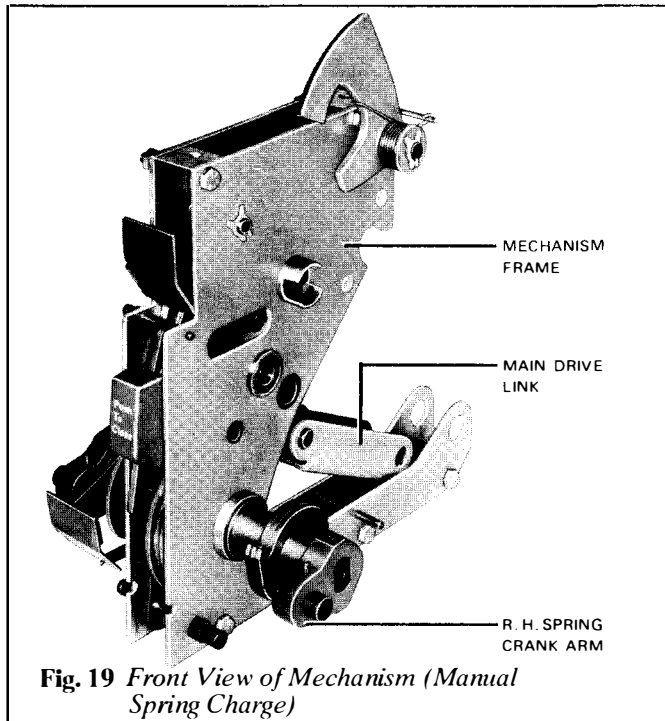

Fig. 19 Front View of Mechanism (Manual Spring Charge)
① Figures 19 thru 22 illustrate mechanism for all DS/DSL breakers except DS-632 and DS-840. DS-632 and DS-840 mechanisms are similar.
② Two opening springs are required for DS-840.